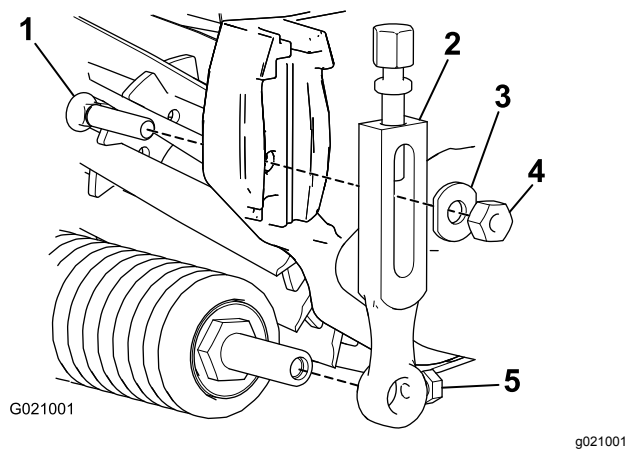

Figure 1
1. Remove the plow bolt, washer, and nut securing one of the height-of-cut arms to the cutting unit, side plate (Figure 1).
2. Loosen the roller mounting screws in the height-of-cut arms (Figure 1).
3. Slide the height-of-cut arm off the roller shaft (Figure 1).